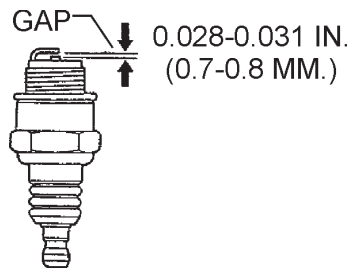

Figure 19. Spark Plug Gap
- Remove and clean the spark plug (Figure 19), then adjust the spark gap to 0.028 ~0.031 inch (0.6~0.7 mm). This unit has electronic ignition, which requires no adjustments.